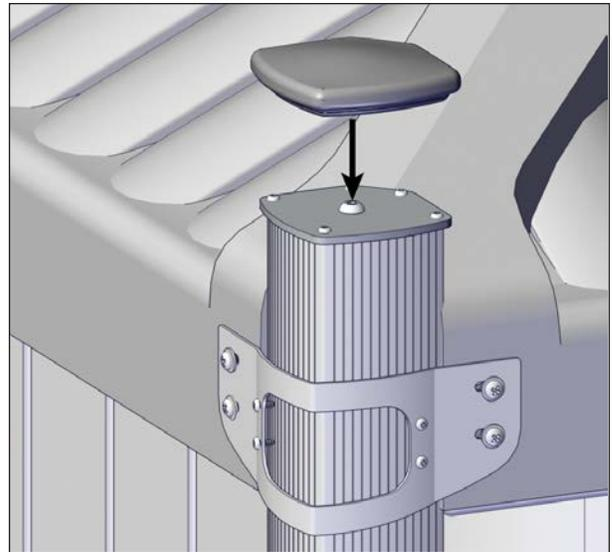

FIGURE 70: RUBBER CAP REMOVAL
2. Remove the rubber cap on top of each post, see Figure 70.